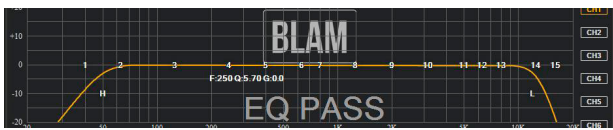

Figure 3.3.6
1. the output channel EQ editing method, all 31 equalizer will work for the next parametric equalizer. When the parametric equalizer curve, if available in the box below the corresponding input parameter values can be (frequency, Q value, and gain) adjusted in real time will also be revealed at the top (as shown in Figure 3.3.6 parametric equalizer case).